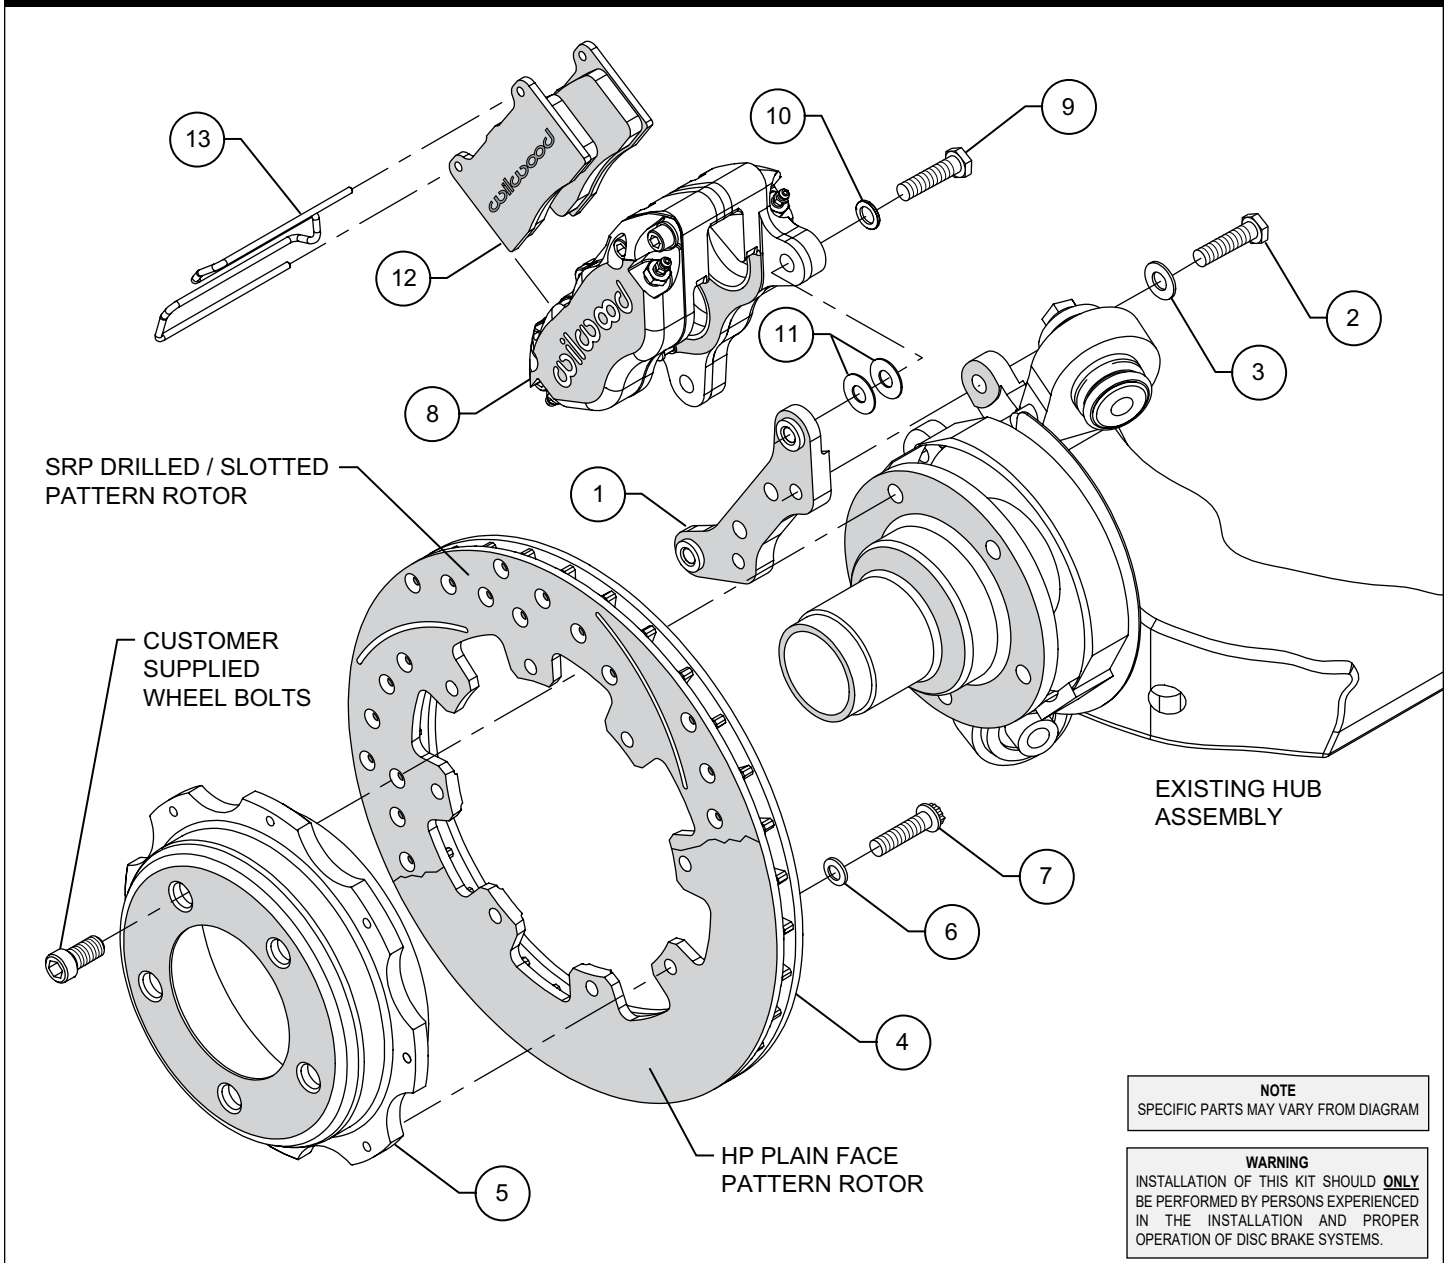
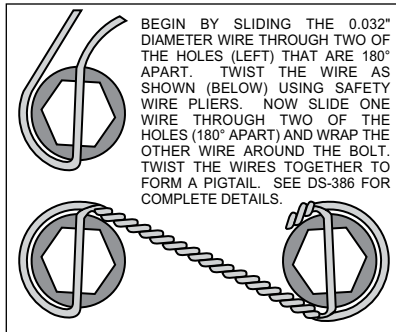

Figure 1. Typical Installation Configuration
Figure 3. Safety Wire Diagram
**NOTE:** Numbers in parenthesis refer to the parts list and Figure 1 on the preceding pages.
- Align caliper mounting bracket (1) with the corresponding holes to the face of the upright and attach using bolts (2) and washers (3), as shown in Figure 1. Temporarily tighten the mounting bolts. Ensure that the flanged heads of the clinch nuts in the bracket are facing outboard. **NOTE:** The bracket must fit squarely against the mounting points on the axle hub. Inspect for interference from casting irregularities, machining ridges, burrs, etc. Remove bolts one at a time, apply red *Loctite*® 271 to threads, and torque to 40 ft-lb.
- Orient the rotor (4) and the hat (5) as shown in Figure 1. Attach rotor to hat using bolts (7) and washers (6). Apply red *Loctite*® 271 to the bolt threads and torque to 140 in-lb using a criss-cross pattern. For an added measure of security, the bolts may be safety wired using standard 0.032 inch diameter stainless steel safety wire as shown in Figure 3. Please refer to Wilwood's data sheet DS-386 (available at [www.wilwood.com/Pdf/DataSheets/ds386.pdf](http://www.wilwood.com/Pdf/DataSheets/ds386.pdf)) for complete safety wire installation instructions.
- NOTE:** Please reference the caution statement at the beginning of the assembly instructions. Mount the caliper (8) onto the caliper mounting bracket (1) using bolts (9) and washers (10), as shown in Figure 1. Initially place two .035" thick shims (11) on each bolt between the caliper and the bracket, Figure 1. Temporarily tighten the mounting bolts and view the rotor (4) through the top opening of the caliper. The rotor should be centered in the caliper. If not, adjust by adding or subtracting shims (11) between the bracket and the caliper. Always